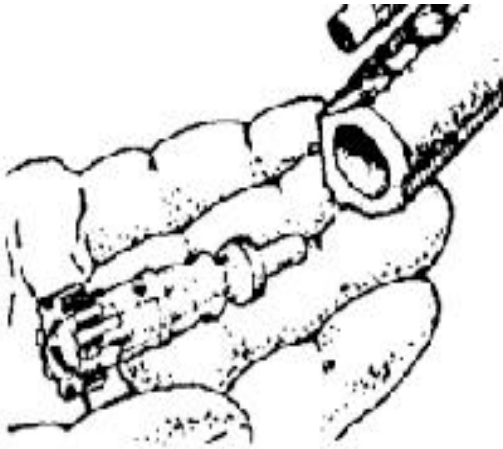

Figure E-16. Removing the bolt.
n. Pull the bolt assembly from the carrier (figure E-16).